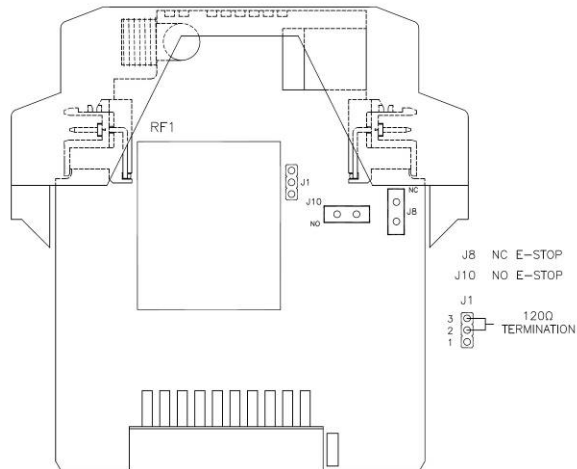

Figure 21: GEN2 RF/CPU Module Detail View
The E-STOP output consists of two relays in series. These relays can be configured as either NO or NC. This is set via J8 (NC) or J10 (NO). To configure the output, remove the module as described in Section 7.3 and then reference Figure 21 for the location of jumpers J8 and J10.